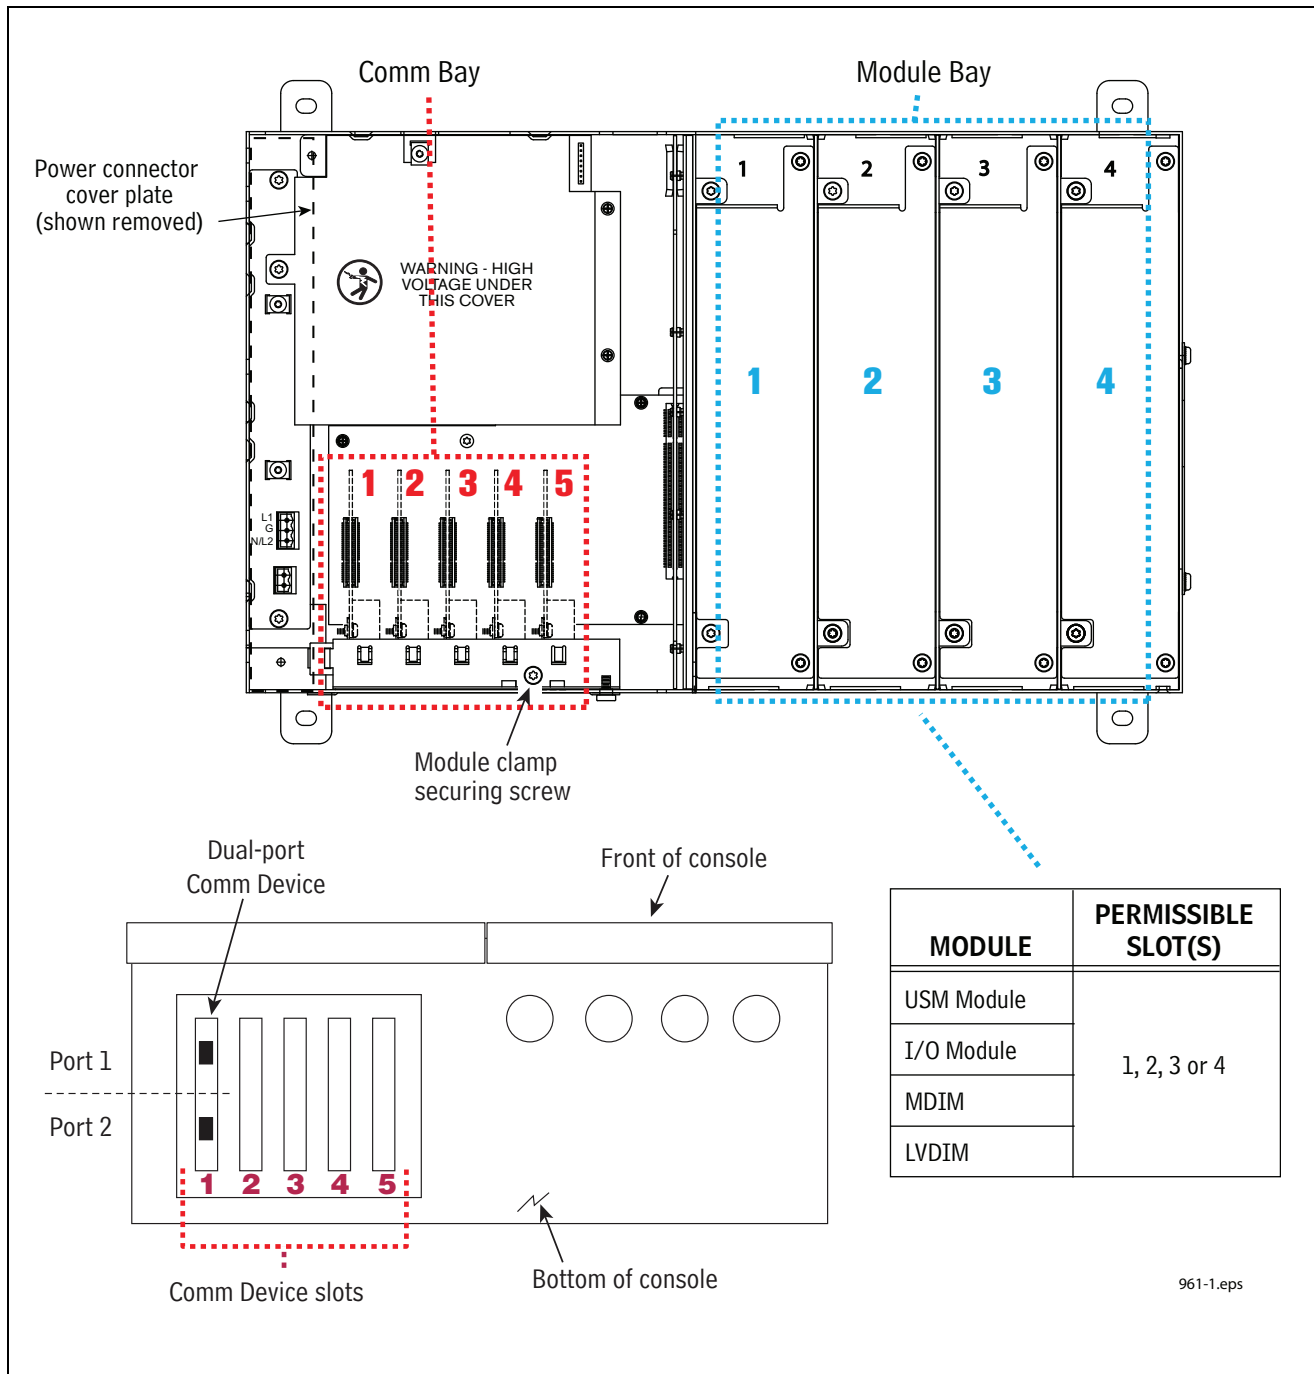

Figure 2. TLS-450 Console - Plug-in Module Bays
The TLS-450 doesn't have pre-assigned slots for the Module bay modules so you can use any of the four slots to accommodate intrinsically safe (USM) or non-intrinsically safe (I/O, MDIM, etc.) modules (see Figure 2). Since the Module Bay modules can be installed in any of these 4 slots, install them where it makes the most sense for conduit connections. **Caution! USM wiring inputs are intrinsically safe and conduit containing this wiring must attach to the knockouts above or below the slot in which you install the USM module(s).**
1. Figure 2 illustrates acceptable Intrinsically-Safe USM module positions in the Module Bay of the console. After installing the USM module, remove a connector from the USM module, loosen the screws, insert your wires and tighten well. Don't let loose wires on the connector drive you crazy when you begin the startup and probes or sensors are missing – make sure these wires are tight in the connector block. Connect all probe and sensor wires and then reconnect your block to the USM module.
1. Figure 2 illustrates acceptable Non-intrinsically Safe module positions in the Module Bay of the console. After installing the I/O, MDIM or LVDIM module, remove the connector from the module, loosen the screw, insert your wires and tighten well.
1. The Comm Bay is divided into 5 communication slots numbered from 1 to 5 going from left to right (see Figure 2).
3. Using a T-15 Torx driver, loosen the screw securing the comm module clamp until you can remove the clamp (see Figure 2).
1. With the left of the console open, remove the two screws that attach the power connector cover plate (see Figure 2).